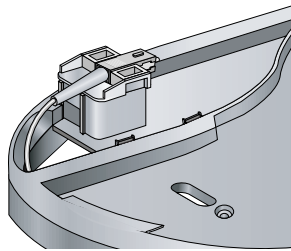

Figure 17. Positioning the SC Connector
13. Position the SC connector in the slot of the post so that the key is facing up, as shown in Figure 17.